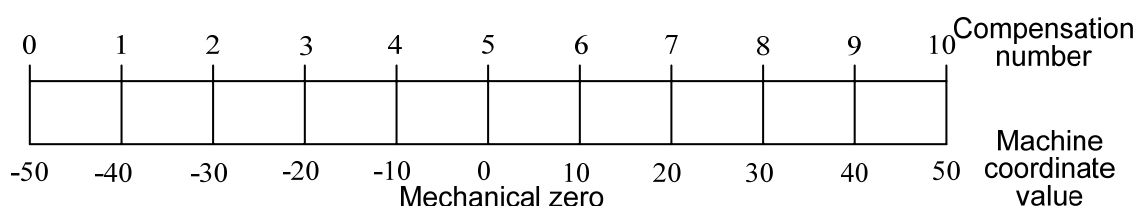

Fig. 4-7-3
C. The reference point locates on the middle of the machine, usually, it generates when using the absolute encoder. The least value of the coordinate system in this area is -50, then the compensation number of the -50 is 0; and therefore, the compensation number of the reference point is No.5 based upon the position relationships between the reference point and No.0 compensation point; refer to the Fig. 4-7-3: